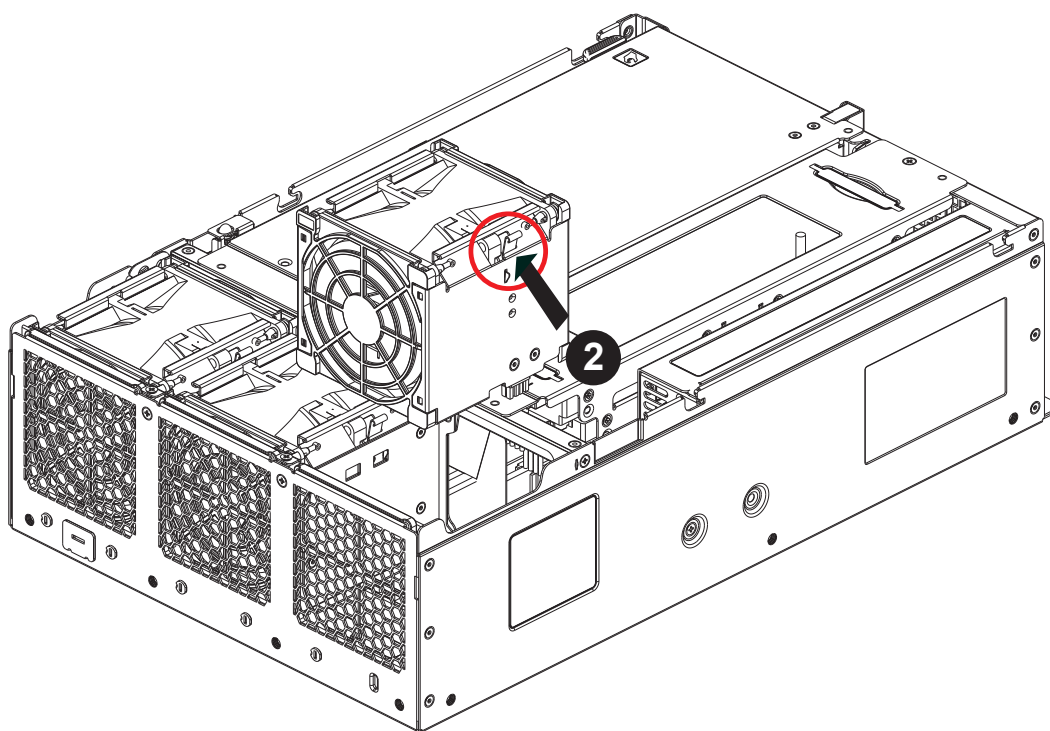

Figure 2-13. System Fans
2. Press the latch at the side of the fan. See Figure 2-13.